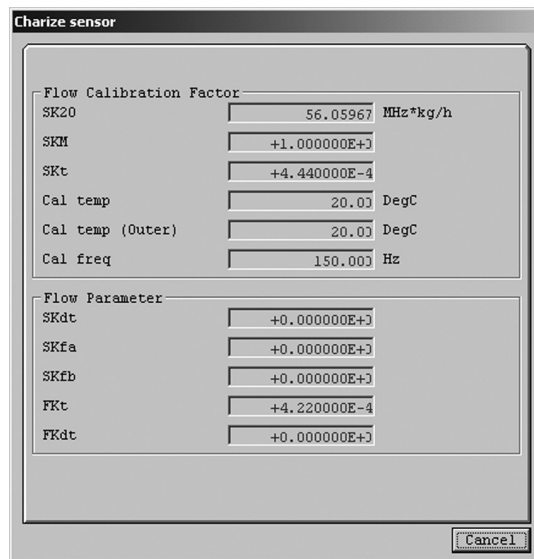

Fig.83
- ① Click on "Review (R)" at the top-level menu of the screen, select "Charize sensor" and click on again.
- ② A message box like the one shown in Fig. 83 appears. You can review calibration factors (flowrate factors).